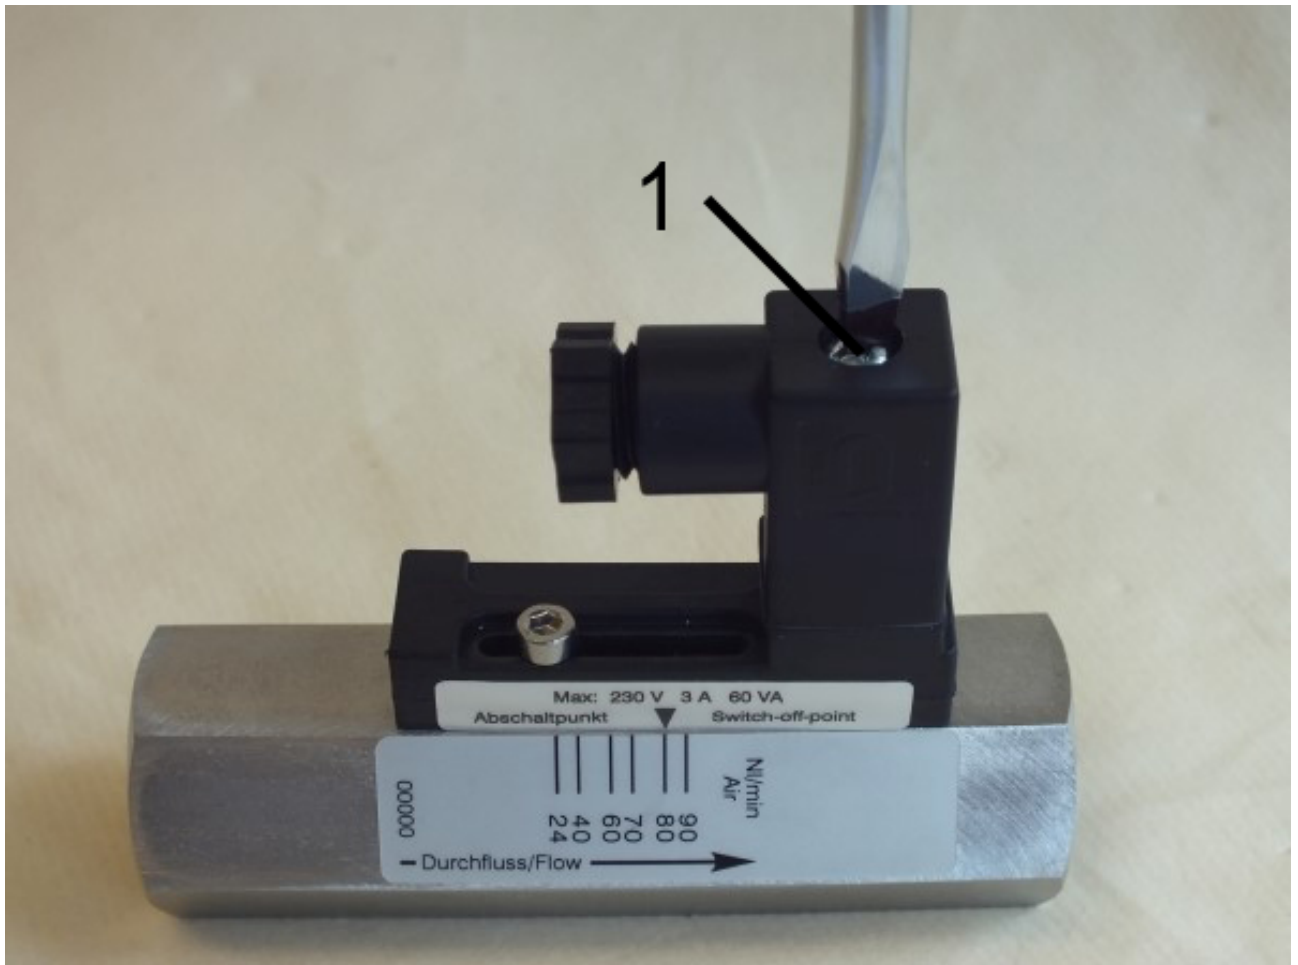

Fig. 21: Detach socket
1. ➤ Release the fixing screw (Fig. 21/1) from the socket
- 9.** ➤ Place the female socket onto the connecting plug and tighten the fixing screw (*Fig. 21/1*).